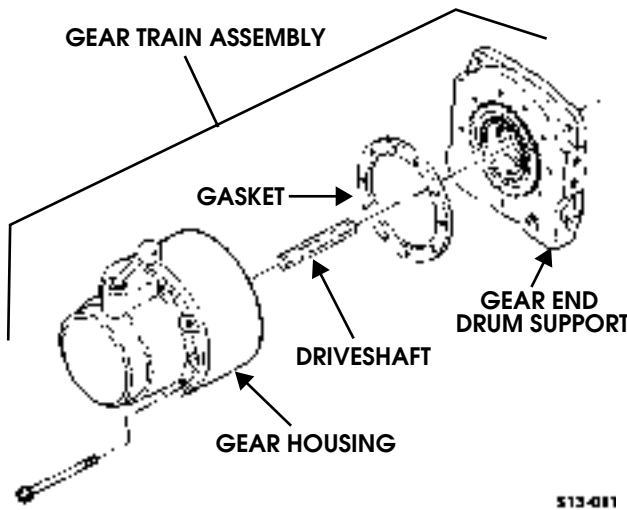

Figure 9-166: Gear Train Assembly
13. Remove driveshaft from gear train assembly (Figure 9-166).
15. Remove gasket from gear end drum support. Discard gasket (Figure 9-166).